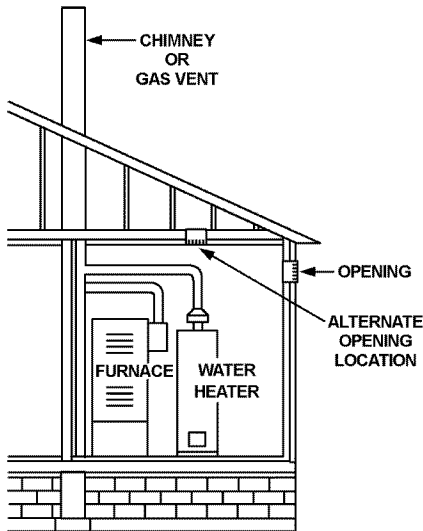

FIGURE 13A.
- Alternatively, a single permanent opening may be used when communicating directly with the outdoors, or with spaces that freely communicate with the outdoors. The opening shall have a minimum free area of 1 square inch per 3,000 BTU per hour (7.3 cm2/kW) of total input rating of all equipment in the enclosure. See Figure 13A.